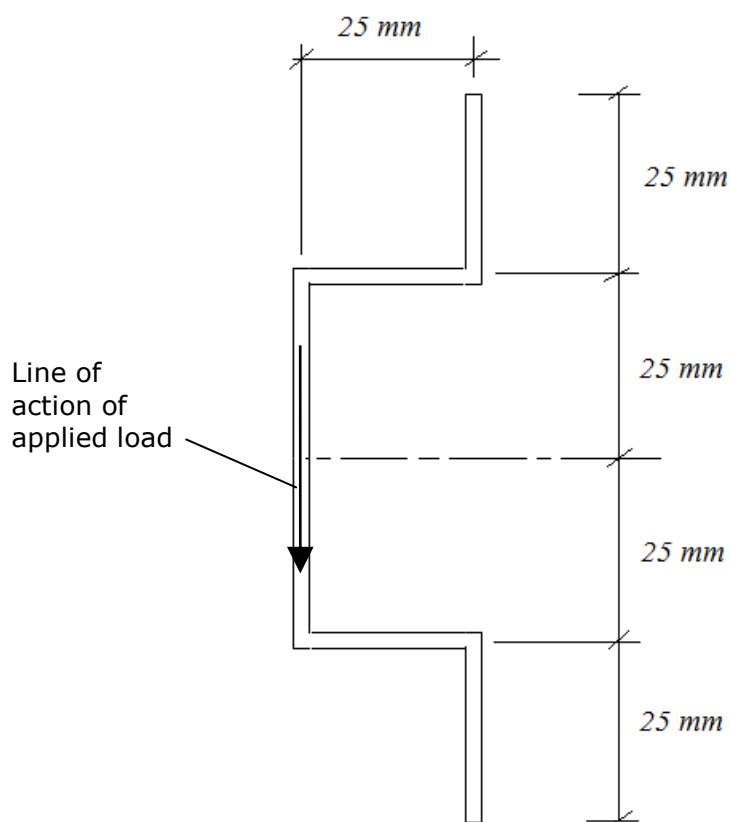

Fig Q5
5. A thin-walled beam, with the section shown in Fig Q5, is subjected to a vertical load.